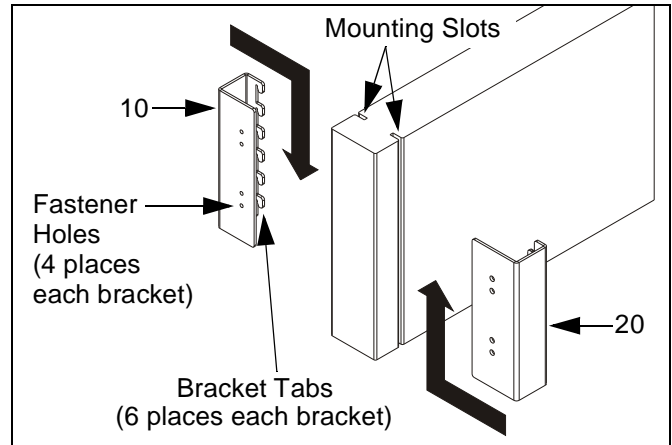

Figure 2: Install OFB-193 Brackets
1. Insert tabs of bracket (10; with *threaded* fastener holes) into office furniture mounting slots at desired height (See Figure 2). Carefully tap into place with hammer so that tabs fully engage mounting slots.